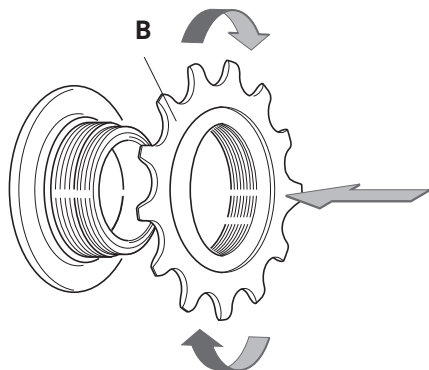

Fig. 7
- Mount the fixed sprocket (B - Fig. 7) on the threaded body of the hub, turning it clockwise until the limit stop, using a Campagnolo® UT-CS060 chainwhip.